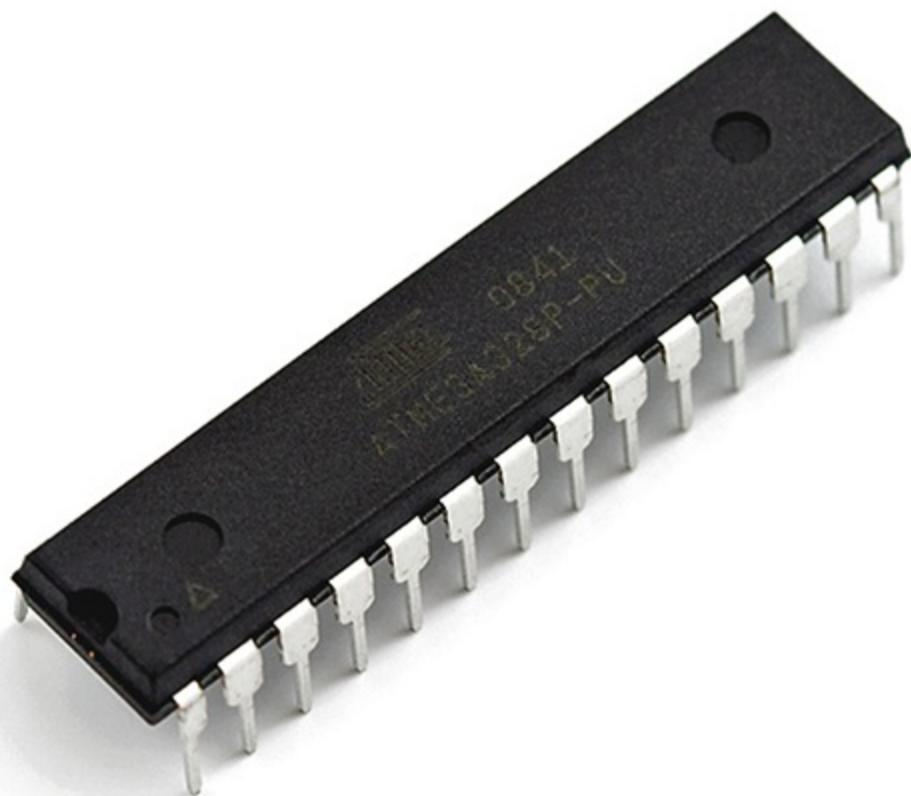

Figure 1-2: The Arduino's brain, an ATmega328 microcontroller.
Because it's a *microcontroller*, it's very small, so it doesn't need much power and can be put into tiny spaces like a project box. How small are microcontrollers? Physically, the one on the Arduino is about as large as they come, about half the size of a pack of gum, as you can see in Figure 1-2. The microcontroller is the rectangular *integrated circuit (IC)* on the blue *printed circuit board (PCB)*. It's that size because it's easy to handle with your fingers, so you can replace the microcontroller on your Arduino if it croaks for some reason. But microcontrollers start about this large and go down from there, all the way to the microscopic level. The main factors that determine their size are their capabilities and cost. In fact, the actual processor *core* on your Arduino chip is much, much smaller than the exterior IC chip itself.
The best part about *microcontrollers* is that they are inexpensive, unlike their big brothers, the *microprocessors* in your computer, laptop, tablet, or phone. Microcontrollers are inexpensive because they have limited capabilities (see Figure 1-2). They are mainly designed to control things or otherwise respond to sensory input, and are called *embedded systems*. Bigger computers have more general capabilities and need more power and therefore, cost more, and use *general purpose* microprocessors.